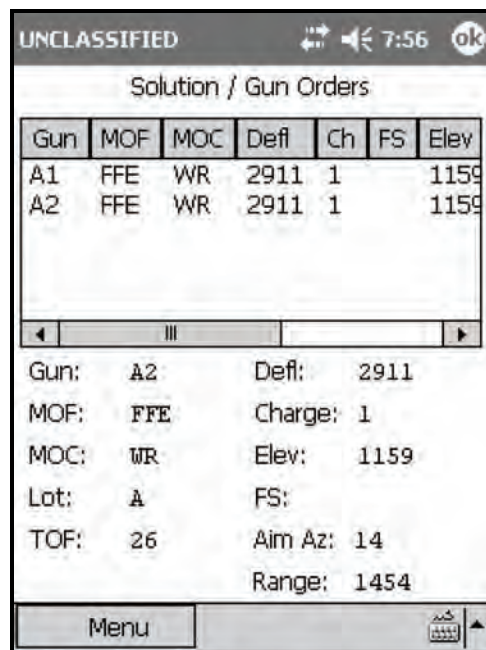

Figure 18-87. Immediate Suppression: Solution/Gun Orders screen.
2. The default number of guns that are included is two, A1 and A2 (Figure 18-87). This may be scaled up or down depending on the target description. The number of guns to be included in the mission may be changed from the Gun Select screen.